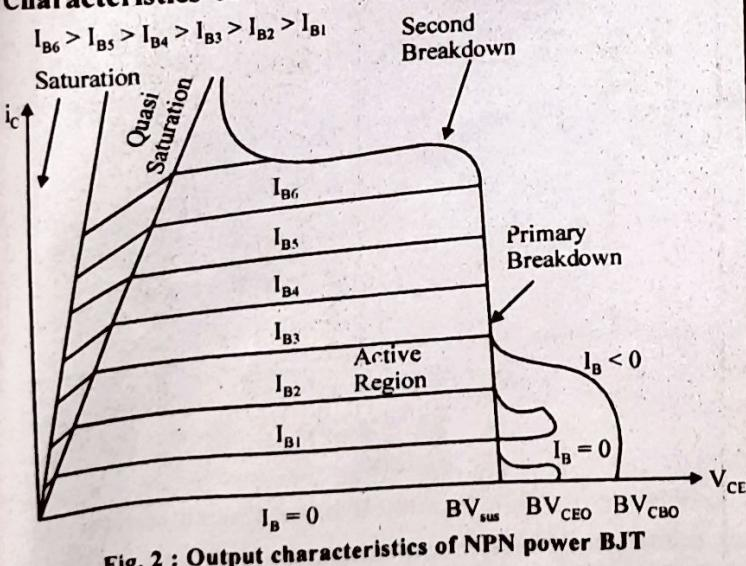

Fig. 2 : Output characteristics of NPN power BJT
Fig. 2 shows output characteristics of NPN power BJT. As in case of lower power BJT, these characteristics depicts the relationship between collector current i_c and collector to emitter voltage V_{CE} for different values of base current I_B . The characteristics of darlington pair are similar to Fig. 2. It is seen that these characteristics have some special features, very different from those for lower power BJT, are as under :
- (1) For substantial values of collector current, there is a maximum value of collector emitter voltage, which the device can sustain. This is denoted by BV_{sus} in Fig. 2. If base current is zero, this maximum voltage can be sustained by the device increases to BV_{CEO} (collector emitter voltage, when the base is open circuited). The voltage BV_{CBO} is the breakdown voltage when emitter is open circuited.
- (2) The primary breakdown is due to avalanche breakdown of C-B junction. In this region, the current and power dissipation can be very high. Therefore, this region should be avoided.
- (3) In the region marked second breakdown, the C-E voltage decreases substantially and collector current is high. This region is due to thermal run away. A cumulative process (power dissipation causes increases in temperature, which further increases power dissipation and so on) occurs in this region and the device gets destroyed. In this breakdown, the power dissipation is not uniformly spread over the entire volume of the transistor but is rather restricted to highly localized areas. Therefore, the chances of the device getting destroyed are high.
- (4) The quasi saturation region (region between saturation and active region) exists. This region is due to presence of lightly doped drift collector region.